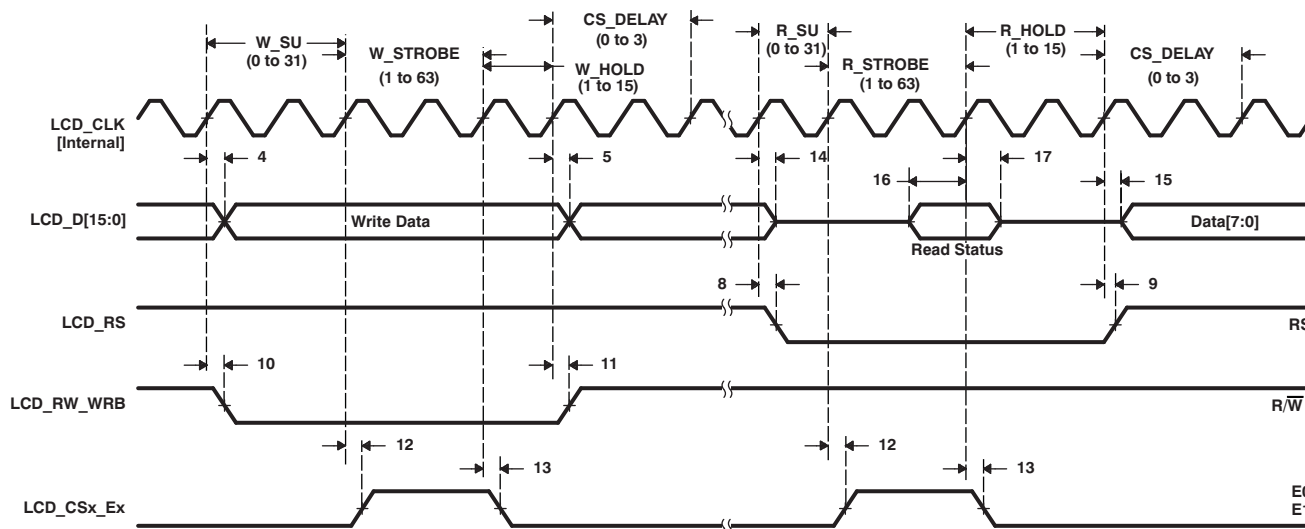
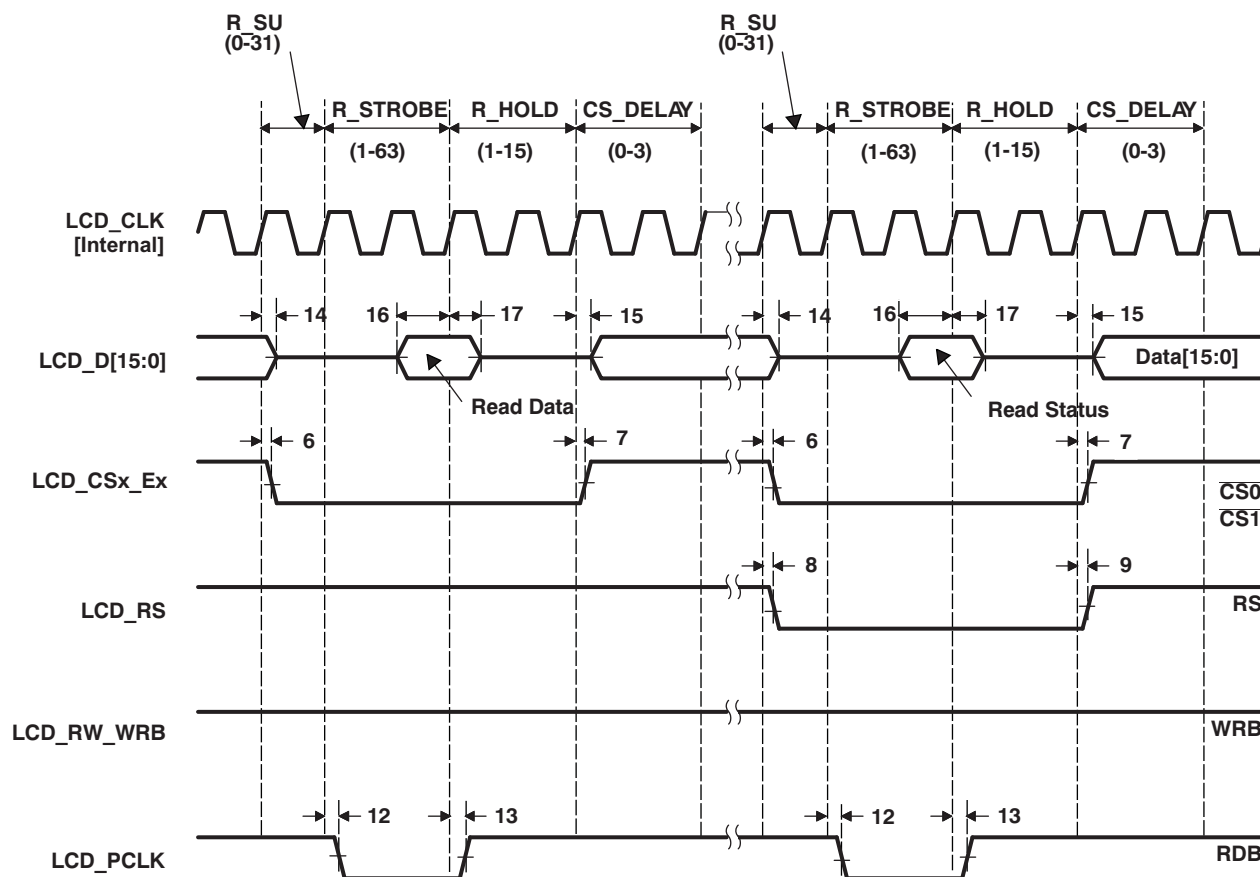

Figure 6-26. Character Display HD44780 Write
Figure 6-33. Micro-Interface Graphic Display 8080 Status
**Table 6-36. Timing Requirements for LCD LIDD Mode(1) (see Figure 6-26 through Figure 6-33)**
(1) Over operating free-air temperature range (unless otherwise noted)
**Table 6-37. Switching Characteristics Over Recommended Operating Conditions for LCD LIDD Mode (see Figure 6-26 through Figure 6-33)**